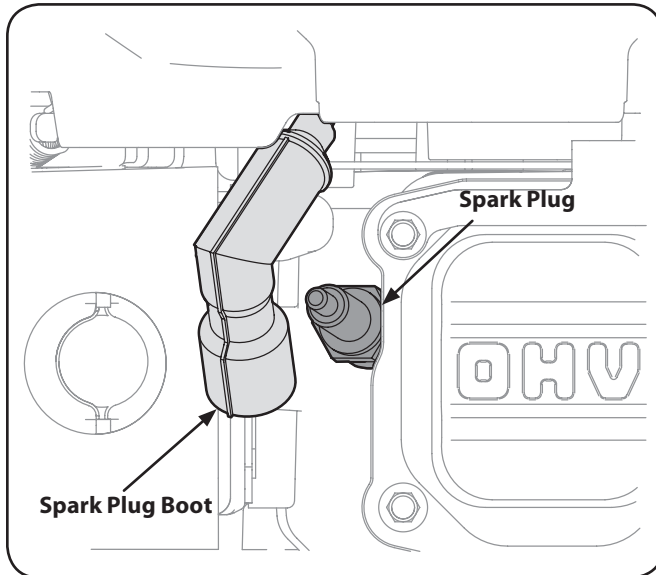

Figure 6-6
1. Remove the spark plug boot and use a spark plug wrench to remove the plug. See Figure 6-6.